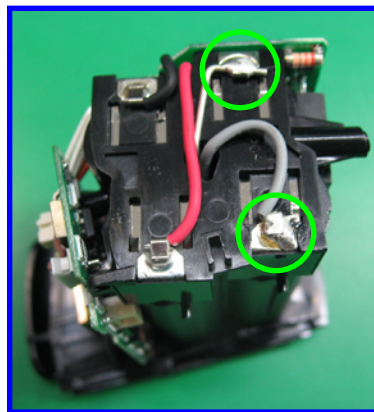

Fig. 043 Temperature Fuse
3. Remove the Temperature Fuse. (Soldered in 2 places) (Fig. 043)